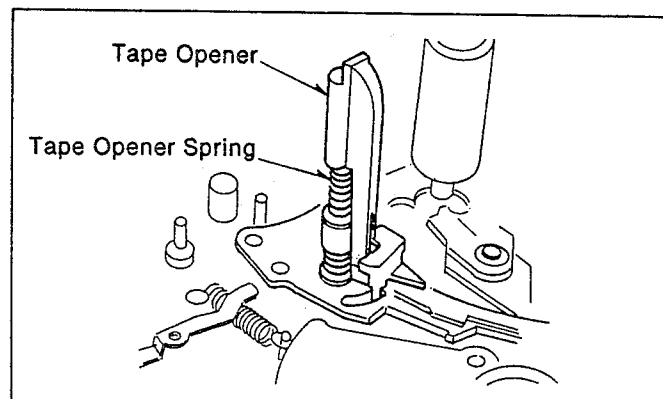

Fig. M24
- (6). Insert the Tape Opener Spring, and then fix the Tape Opener as shown in Fig.M24.